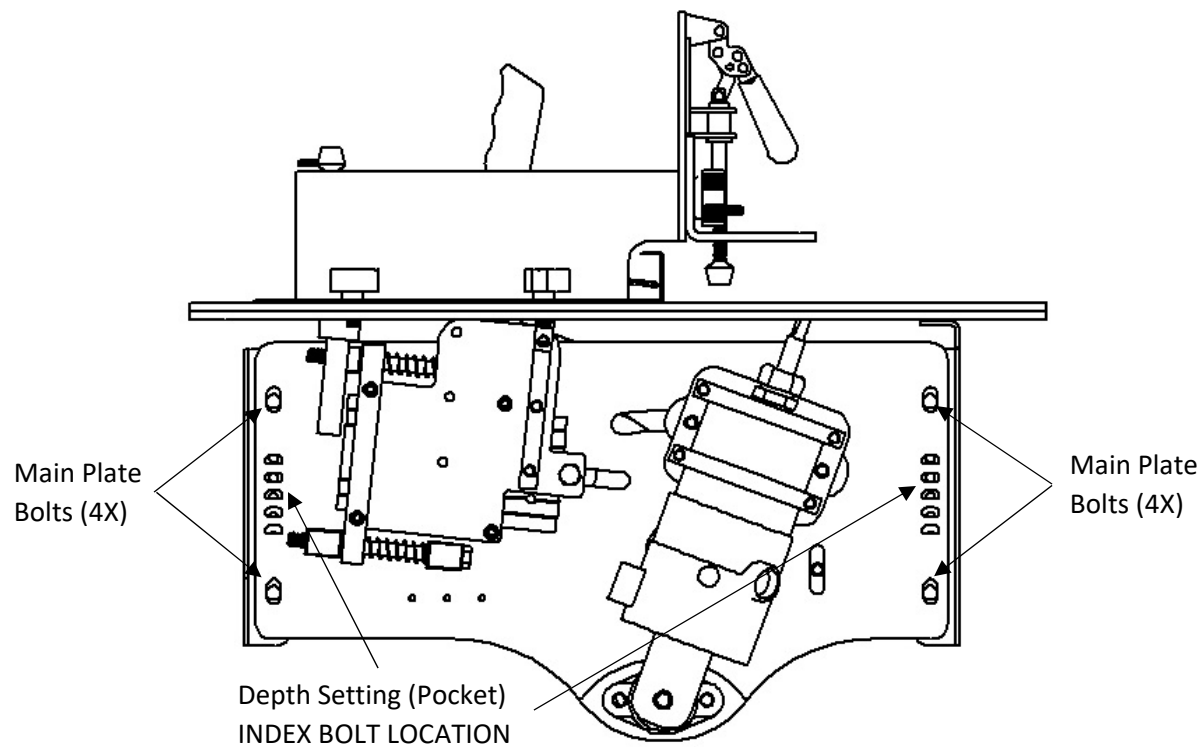

Figure 20: Pocket Depth Adjustment
3. Loosen the 4X main plate bolts (Figure 20) with 2X 9/16" wrenches. NOTE: Do not remove the nut from the bolt. Only loosen the nut until the main plate is able to slide up and down.
5. Remove bolt bolts (Figure 20) from the index holes.